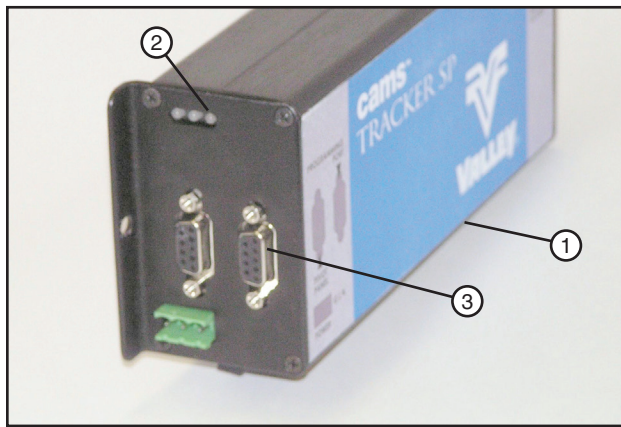

Figure 26-2 1. TrackerSP 2. LED 3. Programming Port
7. Verify that the TrackerSP is ON, the LED on the TrackerSP should be green and blinking. See figure 26-2